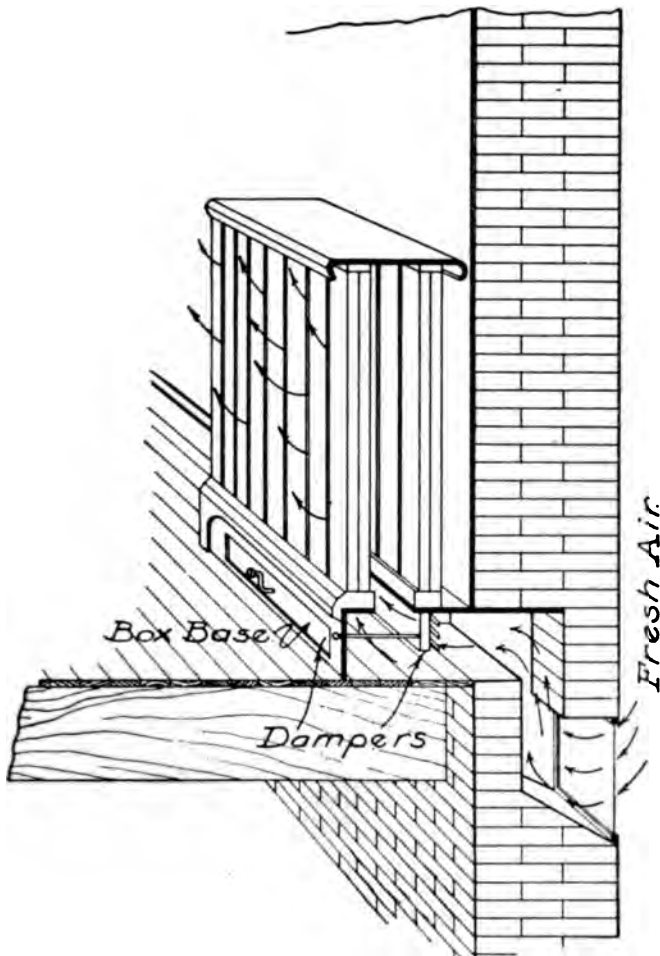

Fig. 16.—A Direct-Indirect Radiator.
A. Direct-indirect or semi-direct radiators are so arranged that they will warm fresh air conveyed from outside the building through a duct or opening through the wall to a boxing forming the base of the radiator, the air being warmed by passing upward over the surface of the radiator as it enters the room. The duct and base are provided with dampers so that the fresh air inlet may be closed and when closed the radiator can be used as a direct radiator. Fig. 16.